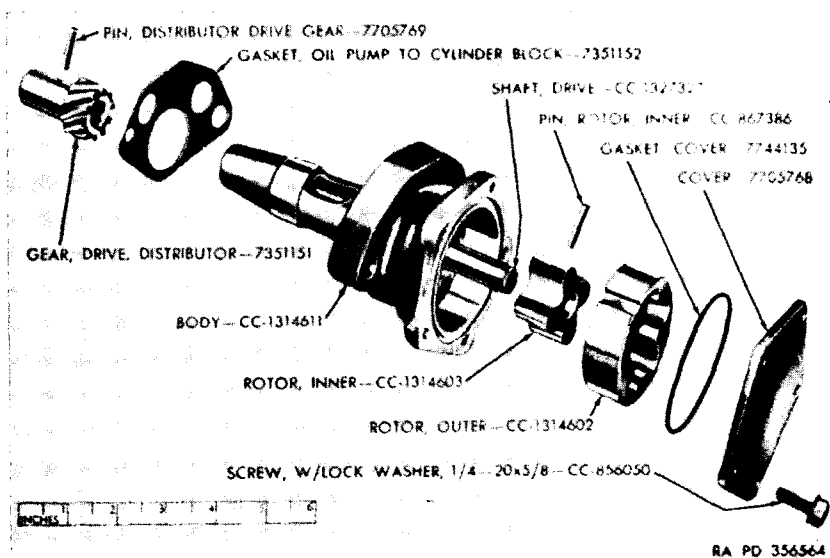

Figure 71. Oil pump—exploded view.
b. Disassembly (fig. 71).
- (1) Remove pump cover and gasket.
- (2) Hold one hand over the open end of the body and turn the pump upside down. Twist the drive shaft until the outer rotor slips out of the body.